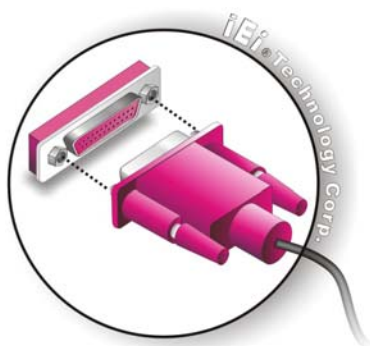

Figure 5-10: Connect the LPT Device
Step 5: Connect LPT device. Once the LPT interface connector is connected to the chassis, the LPT device can be connected to the LPT interface connector. See Figure 5-10.